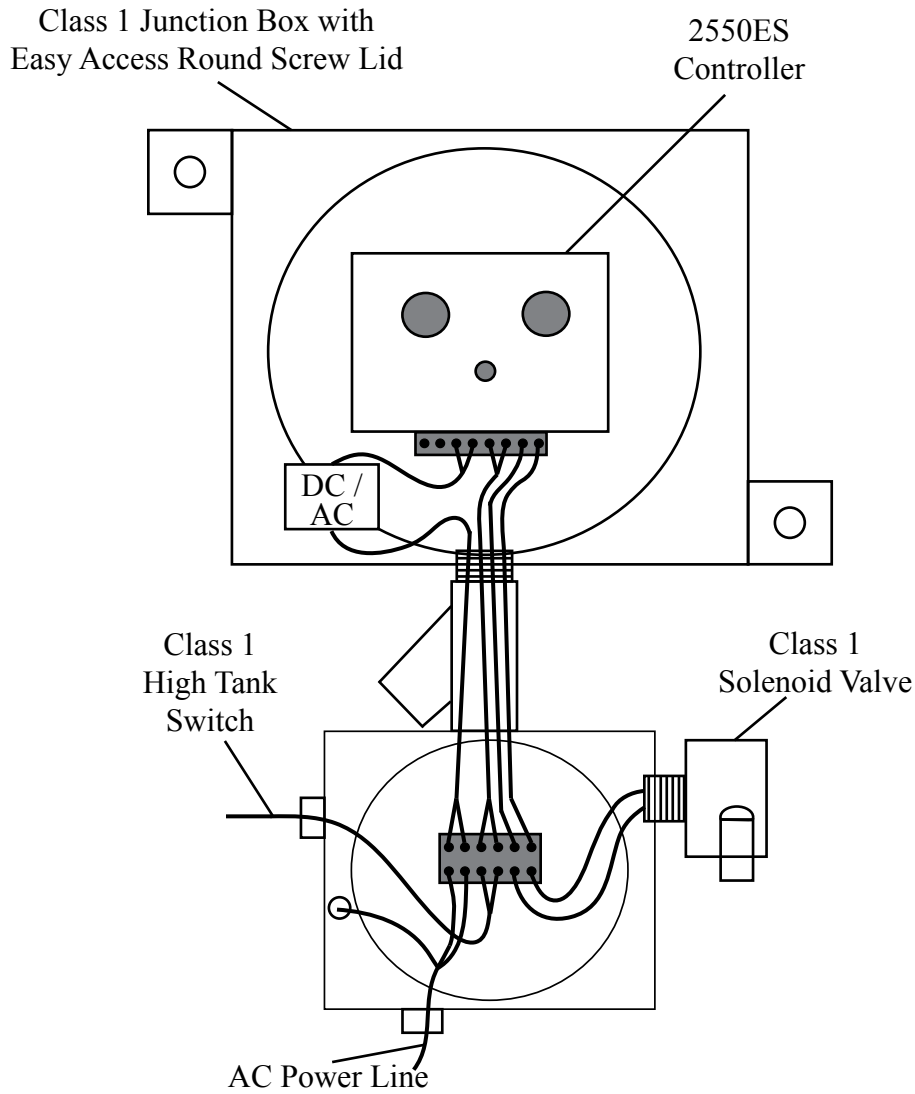

Figure 4
STEP 1. Mount electronic Controller Model 2550ES (Figures 4 and 5) in a vertical position near the air source, power source, and holding tank if possible. Air supply needs to be free of WATER and OIL to have minimum maintenance. **NOTE:** The ON/OFF switch inside the controller is for AC and DC power.
STEP 2. Install holding tank shutoff assembly into holding tank (a 2" standard pipe inlet will be required in the holding tank). The level of product in the holding tank can be set by raising or lowering the liquid level float switch rod. Wire the shutoff switch cable into the controller (Figures 4 and 5). **NOTE:** If additional signal cable is needed to position the holding tank assembly further away from the controller, use 18 gauge 2-conductor wire.
STEP 3. Attach power line from the AC power source to the controller (Figures 4 and 5). Turn on the controller power switch. If the red "Product Tank Full" light stays on, you have a problem with tank shutoff wiring. Turn off the power switch and re-check the tank shutoff wiring. If the light continues to stay on, call the factory.